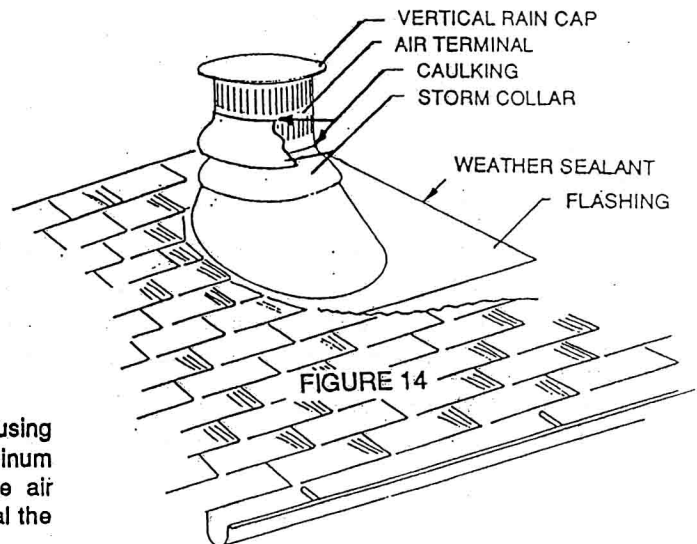

FIGURE 14
6. Slip the roof flashing over the air terminal and fasten to the roof. Make weather tight by sealing with caulking (not supplied). Where possible cover the sides and top edges of the flashing with roofing material (Fig. 14).
7. Run a heavy bead of caulking 2 inches above the flashing. Slide the storm collar down the air terminal to the caulking. Run a second heavy bead of caulking around this storm collar, ensuring that a weather-tight seal between the air terminal and collar is achieved. Slide a second storm collar down and center it between the air intake and the air exhaust slots (Fig. 14). Secure with 3 screws and seal using a heavy bead of caulking. For vertical roof installations, a 12" air terminal cap is available and must be attached. See accessories, Section 13.4.